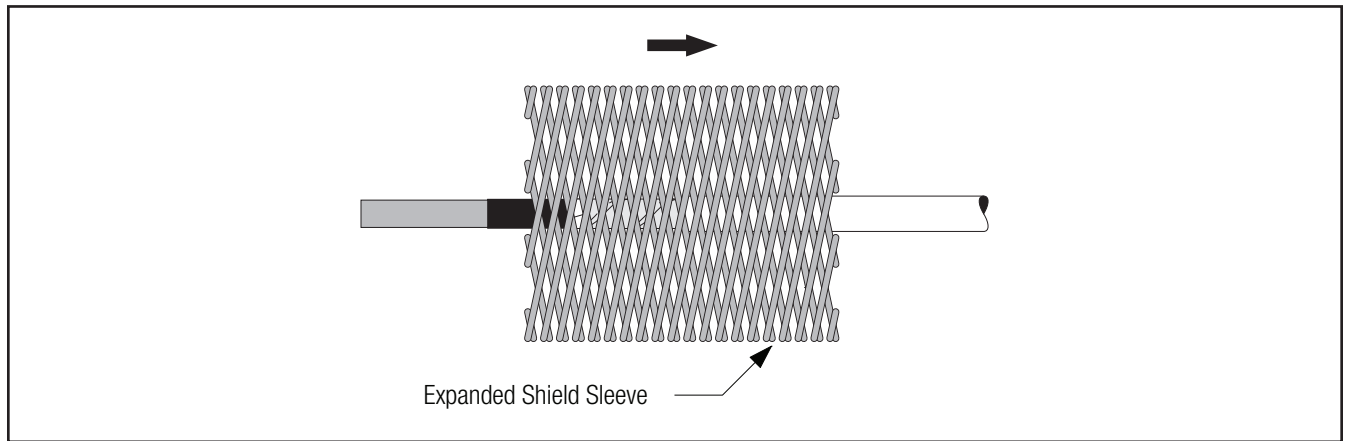

Figure 11
3.2 Position the expanded shield sleeve onto one cable. The shield sleeve is designed to carry up to 1/3 neutral current (Figure 11).